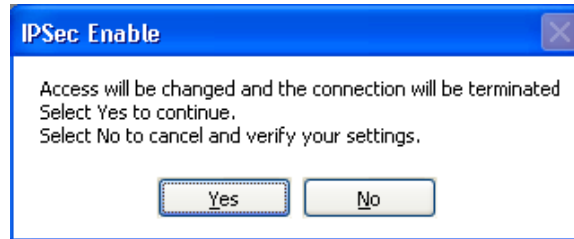

Figure 3-26 IPsec Enable Confirmation Screen
2. To enable IPsec from IPScom, from the **Communication/Setup/Communication Security/IPSEC Configuration** dropdown menu, select **Enable**. IPScom will display the "IPSec Enable" confirmation screen (Figure 3-26).